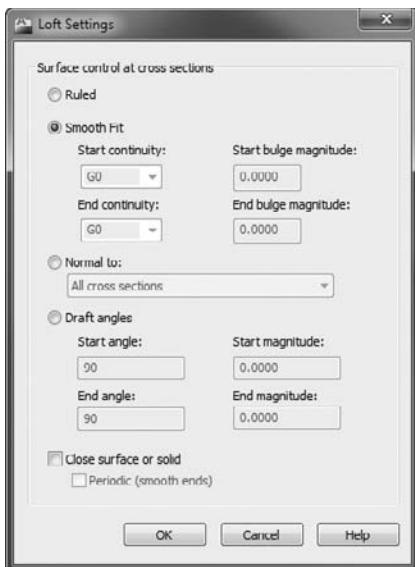

FIGURE 17.5 The Loft Settings dialog box
9. You can adjust how lofted surfaces are created by entering **S** \downarrow with the **LOFT** command still running. Verify that the Smooth Fit option is selected in the Loft Settings dialog box that opens, shown in Figure 17.5. Smooth Fit creates a soft transition from one contour to the next.